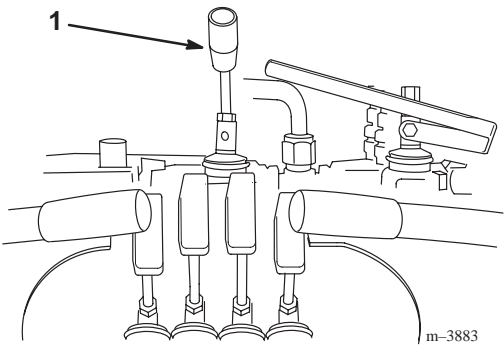

Figure 1
1. Thread the lever into the speed selector valve (Fig. 1).